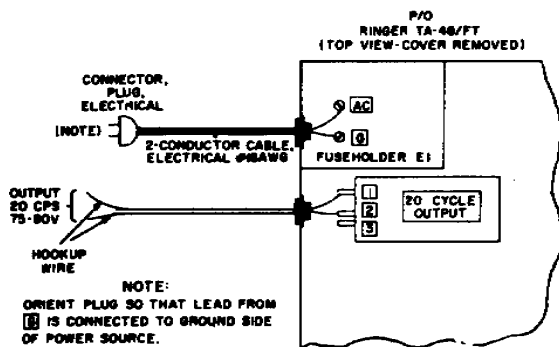

Figure 8. Ringer TA-48/F,T, power cord construction and connections.
a. *Ringer TA-48/FT.* Ringer TA - 48/FT is not supplied with an ac power cord or output leads. Remove the TA-48/FT cover. Construct an ac power cord and output leads and connect them to the TA-48/FT (fig. 8), then replace the cover.